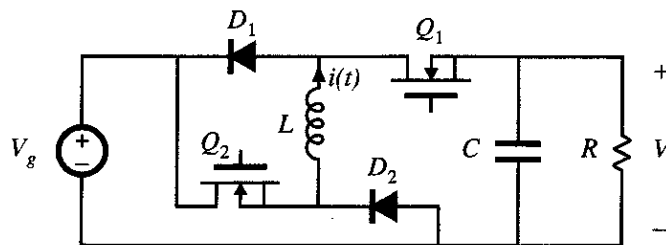

Fig. 5.22.
- 5.4 The transistors in the converter of Fig. 5.22 are driven by the same gate drive signal, so that they turn on and off in synchronism with duty cycle  $D$ .